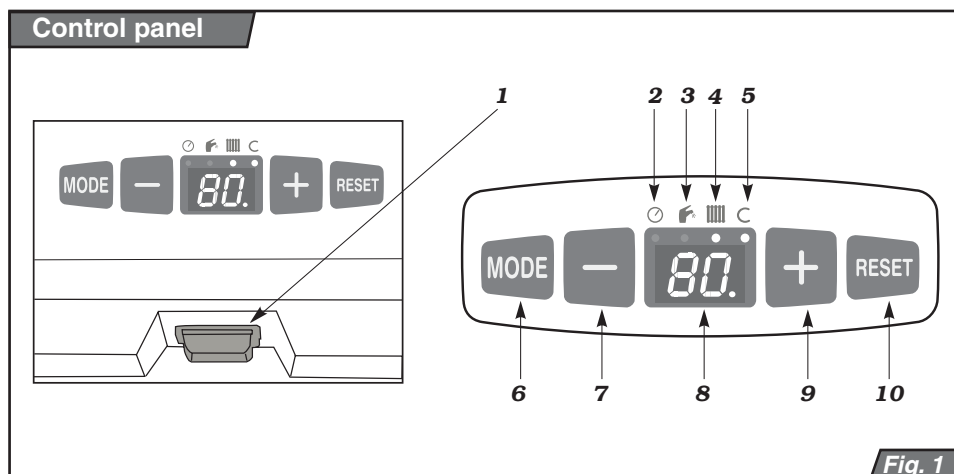

Fig. 1
The main switch (Fig. 1, Position. 1) is used to switch the boiler on or off. The main switch underneath the boiler's bottom edge, in the control panel centreline
The control panel has the following control elements (Fig.1):
Using main switch (Fig. 1), turn the boiler off. Then press the  button and turn the boiler on again with the main switch.
boiler by pressing the RESET button (Pos. 10 in Fig. 1). If the fault recurs again, call an authorised service.
Turn the main switch (Fig. 1) to the ON position (I). The display lights up.
Turn the main switch (Fig. 1) to the OFF position (0).